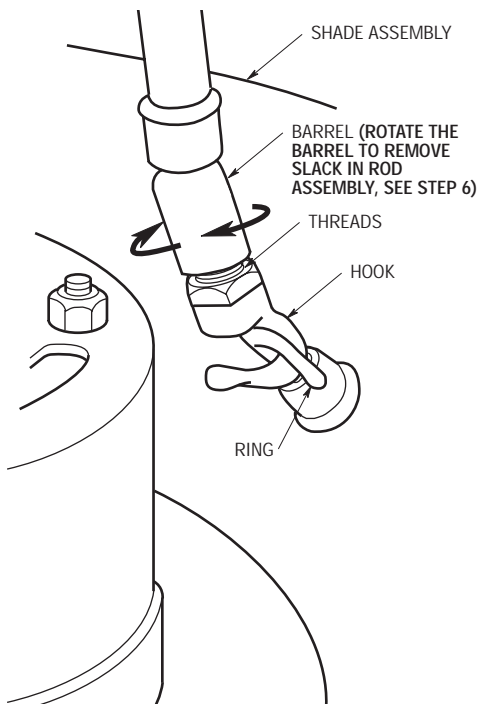

Figure 2
- 2. Verify that three or four threads are visible between the bottom hook and the barrel of the rod assembly (Figure 2). If necessary, turn barrel to expose more threads. Check all rod assemblies.
- 3. Engage the rod hook with the ring in the shade assembly (Figure 2).
- 6. Tighten (rotate) the barrels of the rod assemblies to take up any slack, thereby reducing the chance of noise due to vibration when the fan is operating (Figure 2).